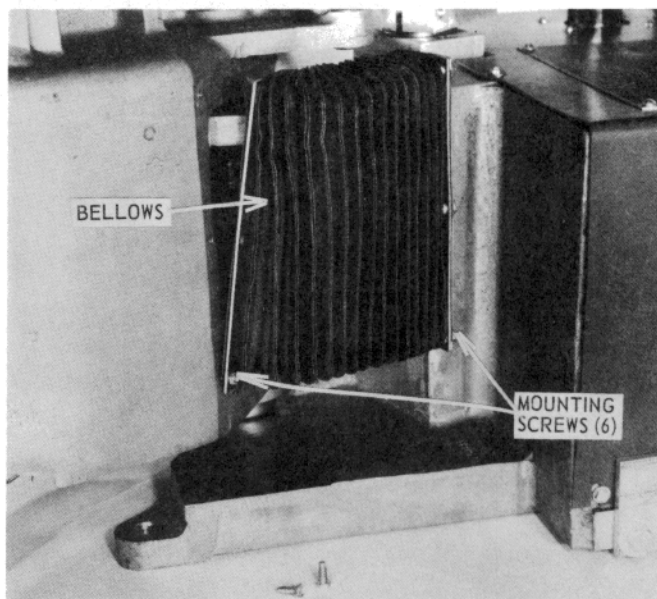

Figure 41 — Bellows
- 2.1.1 Disconnect both bellows (see Figure 41).